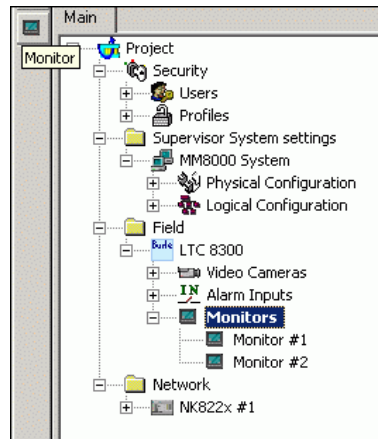

Fig 30 Adding monitors to Philips/Burle switcher
4. Select the sub-nodes monitors and add the monitor nodes (→ see Fig 30).